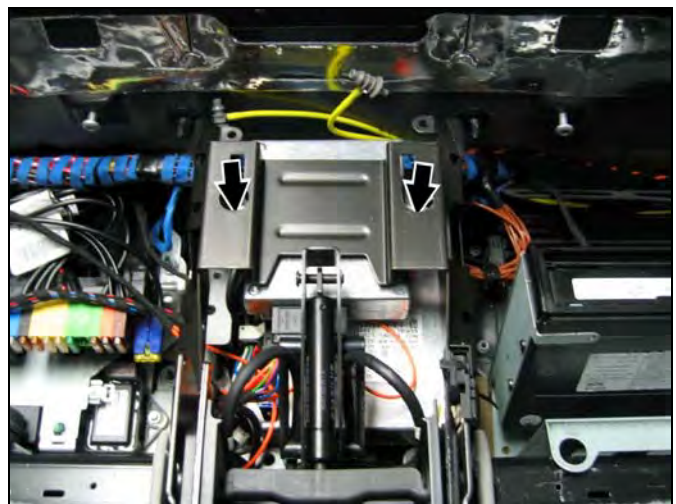

Figure 11
8. With **MHI** VCS power supply/MOST connector **TO THE RIGHT** facing front and mounting tabs facing up, carefully slide the **MHI** VCS control module under the console bracket and **CONNECT THE OPTICAL AND POWER CONNECTORS**. fasten its mounting tabs to the bracket with two kit-included T15 Torx self-tapping screws and washers (Figure 11).